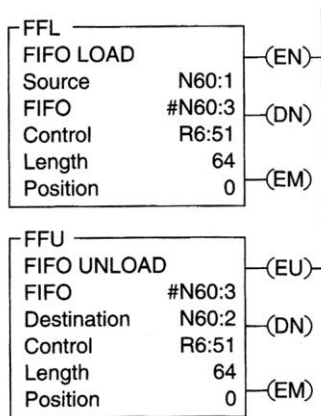

Figure 12-19 FFL-FFU instruction pair for question 34.
34. For the FFL-FFU instruction pair of Figure 12-19, which parameter tells the processor